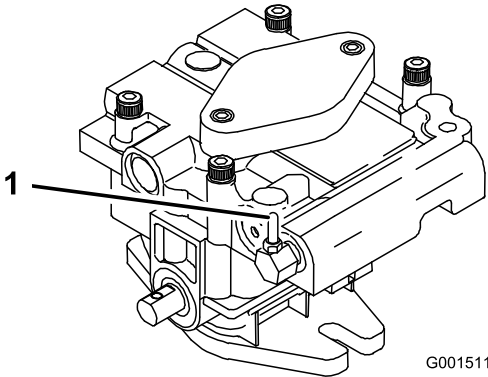

Figure 14
2. Open the bypass valves by turning them counter clockwise 1 to 2 turns. This allows hydraulic fluid to bypass the pumps and the wheels to turn (Figure 14).